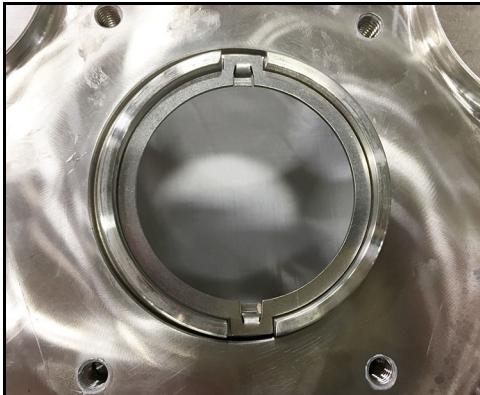

Figure 57 - drive ring installed (134-U3 and smaller)
NOTE: The side of the drive ring tab that protrudes, faces the body; the flat side of the tab faces up. (The flat side of the tab is facing the camera in Figure 56 and Figure 57.)
5. Figure 57 shows the drive ring installed.